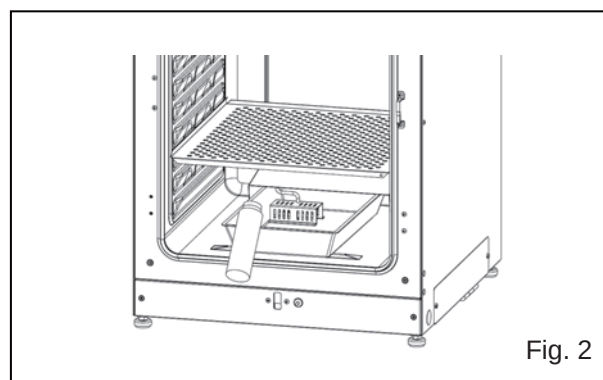

Fig. 2
4. Return the humidifying pan to the chamber and fill with sterile distilled water (approx. 1.5 L, preheated to 37 °C) (Fig. 2).